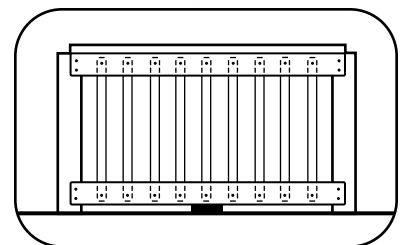

Fig. 36
- An additional top and bottom Side Rail can be installed on the inside (deck side) of the Railing for additional support (Fig. 36).